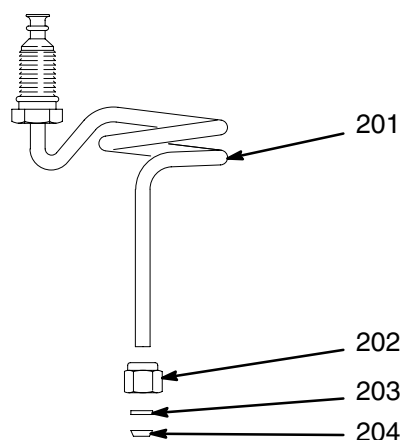

Fig. 24 3933A
8. Slide the nylon nut (202) and ferrules (203 & 204) onto the coiled tube assembly (201). See Fig. 24 .